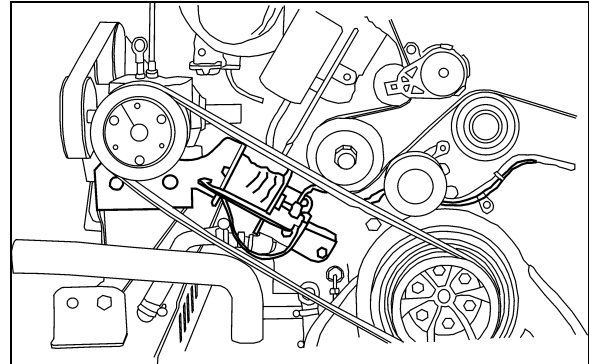

FIGURE 19: BELT TENSIONER
*For proper operation of the air bellows, adjust the **upper** tensioning bracket to provide a 1/4 inch (7 mm) gap between stopper and bracket with the pneumatic system under normal pressure and the air pressure regulator set as per paragraph #3 (Fig. 19).*